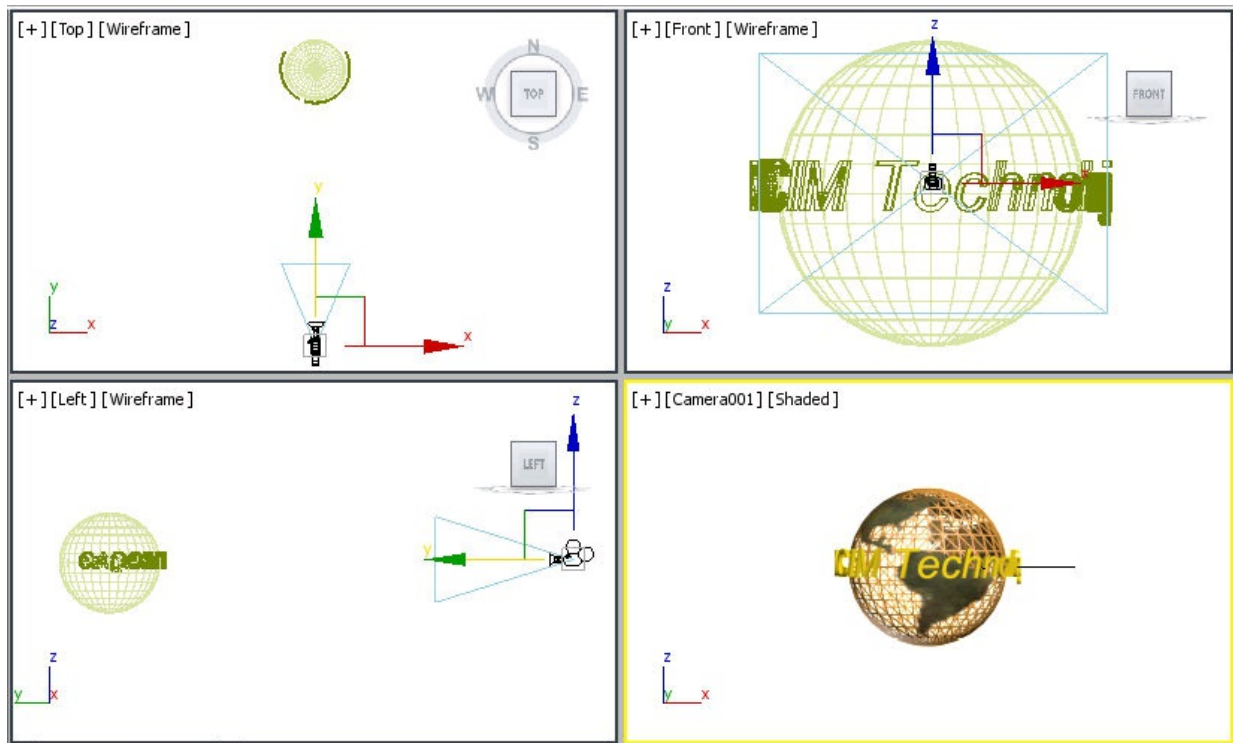

Figure 14-48 The Camera001 aligned in viewports
3. Align *Camera001* in viewports to view the front side of the scene and then press the C key in the Perspective viewport to activate the Camera001 viewport, as shown in Figure 14-48.